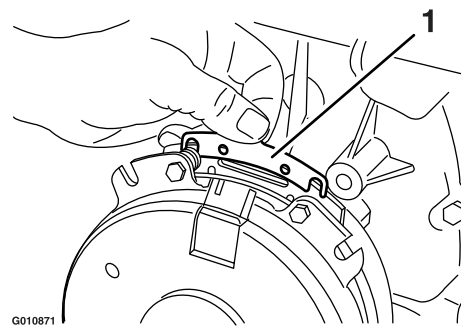

Figure 65
- B. Using needle-nose pliers, or by hand, hold the tab and remove the shim (Figure 65).
Remove any buildup of grass, dirt, or other debris from the engine screen. This helps ensure adequate cooling and correct engine speed and reduces the possibility of overheating and mechanical damage to the engine (Figure 65).